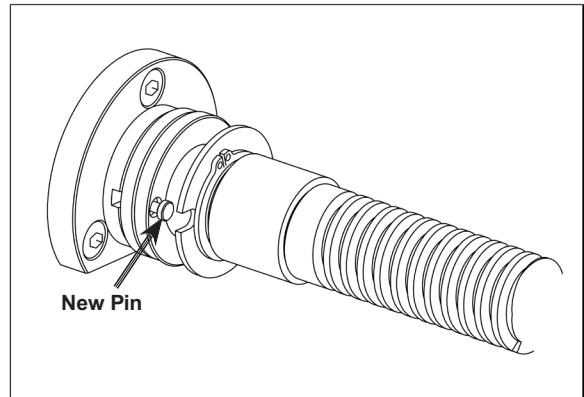

Figure 100. New shear pin installed in bore.
9. Insert the new shear pin into the bore, as shown in Figure 100.